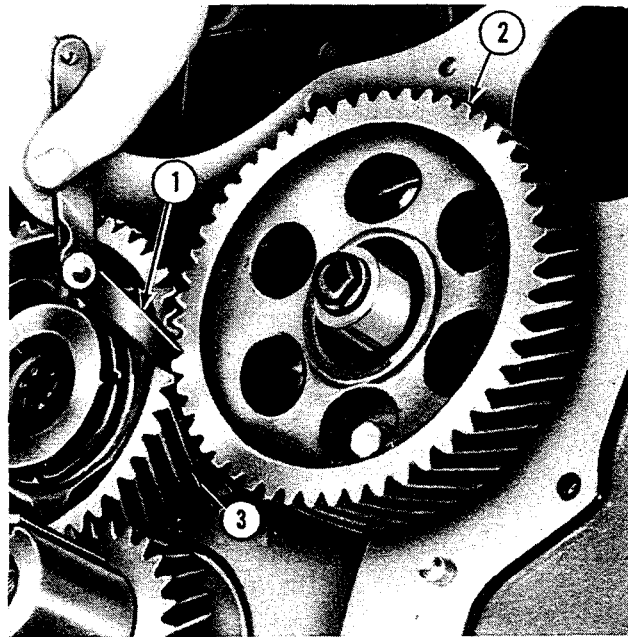

Figure 30
2. Check the backlash of the gears with a dial indicator or a feeler gauge, as shown in Figure 30.